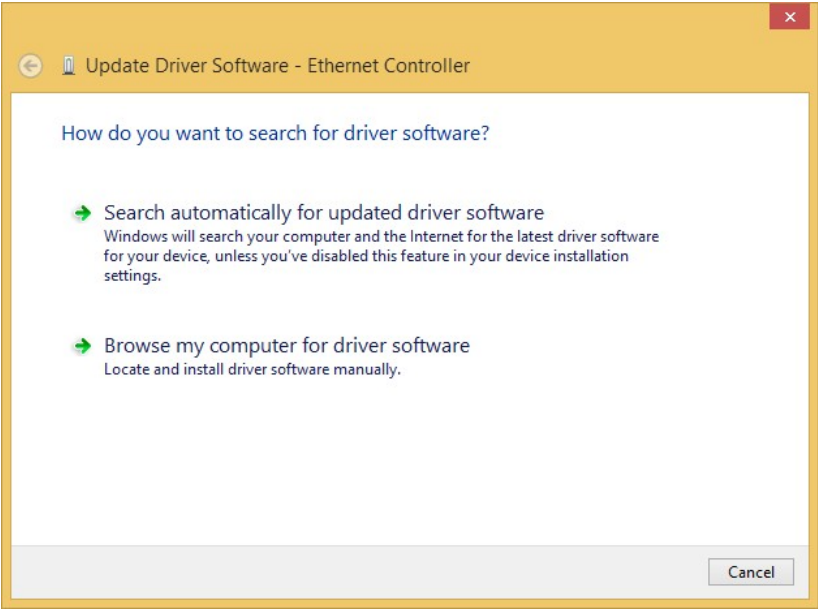

Figure 6-16: Update Driver Software Window
Step 7: The Update Driver Software Window appears (**Figure 6-16**).